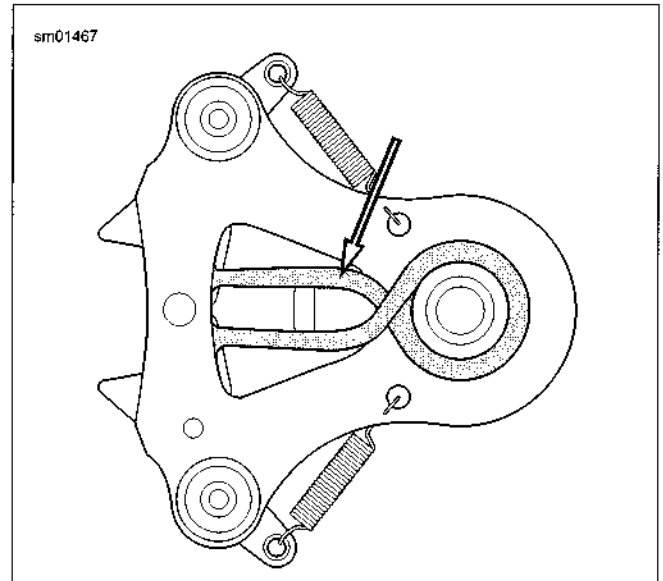

Figure 5-72. Correctly Installed Shifter Shaft Return Spring
1. See Figure 5-72. Correctly install shifter return spring onto the reverse side of the shifter shaft assembly before placing shaft in left crankcase half.